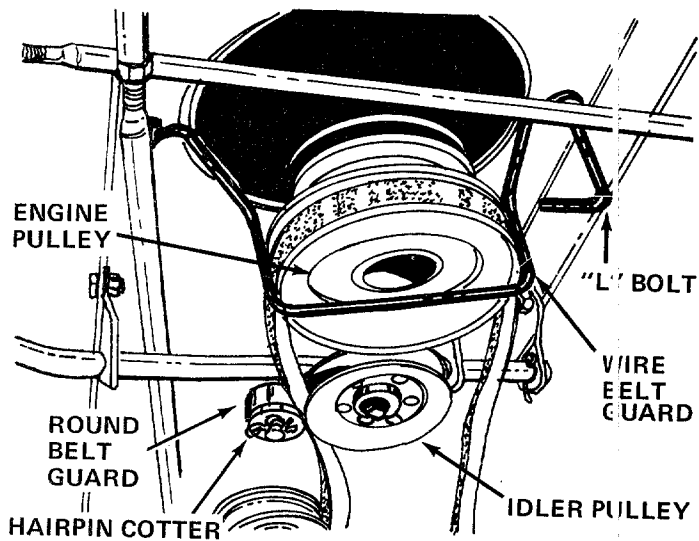

FIGURE 10
15. Place the belt which is preassembled to the carriage bracket assembly around the idler pulley and engine pulley on the tractor. See figure 10.
16. Reassemble the round belt guard and hairpin cotter. Reassemble the wire belt guard and "L" bolt. See figure 10.